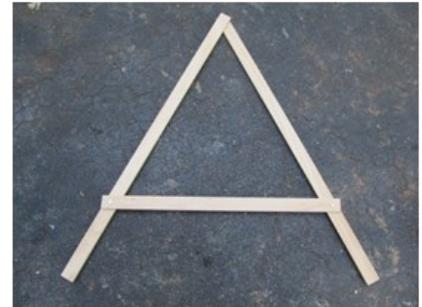

Figure 1.
- B. Next, drill a hole 9" in from *one* end of both of the longer $\frac{3}{8}$ " x 2" x 36" pine craft boards. Using the machine screws and wing nuts, loosely bolt the $\frac{3}{8}$ " x 2" x 36" pine craft boards to the $\frac{3}{8}$ " x 2" x 26" pine craft board, then overlap the undrilled ends of the $\frac{3}{8}$ " x 2" x 36" pine craft boards (Figure 1).